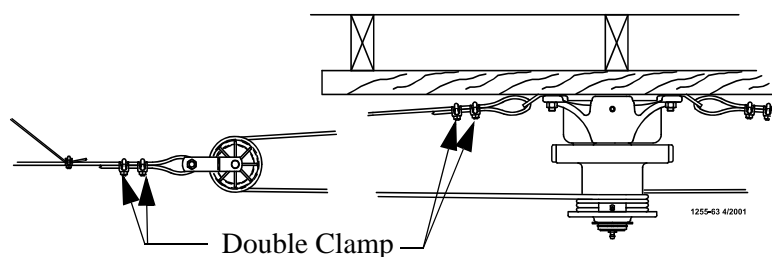

Figure 13. Double back arrangement, feed lines over 350' [107 m]
1. Extend the 3/16" [5 mm] main winch cable the full length of the feeder line. Attach the cable temporarily to the ceiling with nails, staples, or some type of fastener. **Figure 13** shows a double back arrangement for feed lines over 350' [107 m].